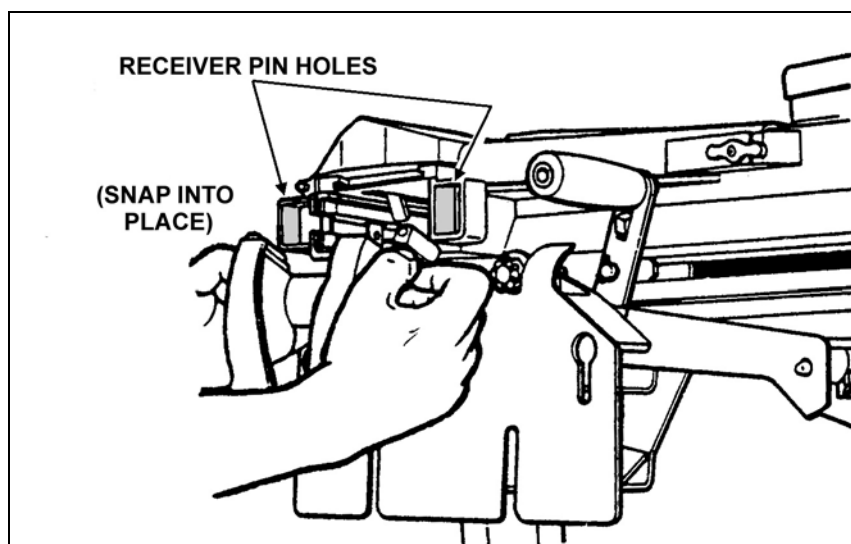

Figure 3-12. Feed throat alignment.
- (2) Attach the feed throat to the front left-hand side of the receiver assembly. The pins of the feed throat must line up with the pinholes in the receiver (Figure 3-12).